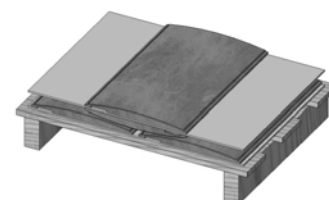

Figure 3 - Example of soapstone packaging
- or Soapstone (fig.3) (in this case there are two packagings structure + soapstone pallet)